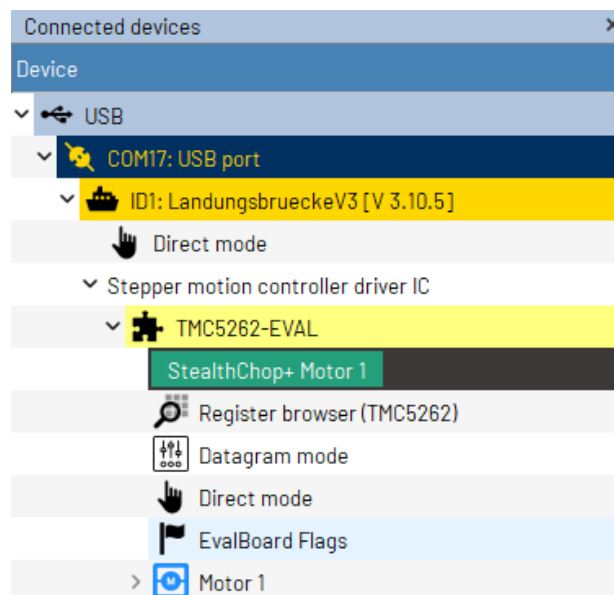
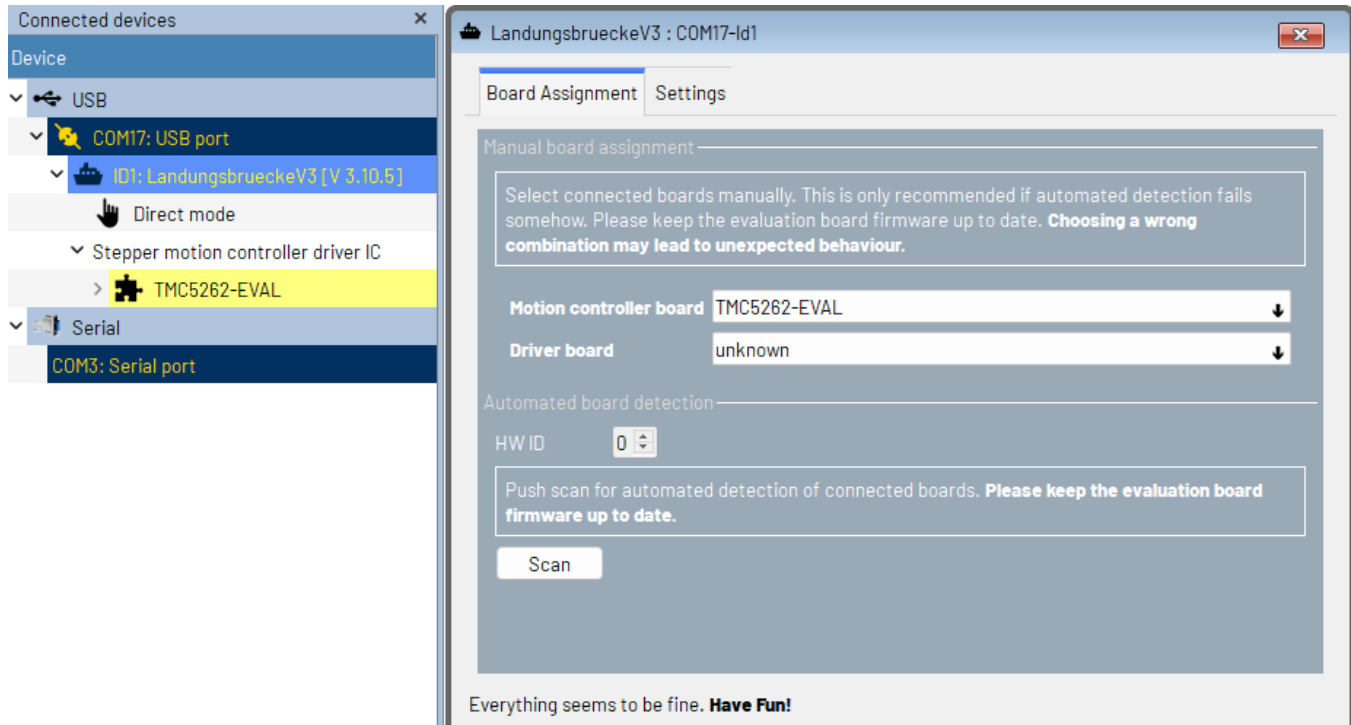

Figure 2. TMCL-IDE Device Tree
Figure 3. TMCL-IDE, Manual Selection of a Board
1. Make sure the latest version of the TMCL-IDE is installed on the computer. The latest version can be downloaded from TMCL-IDE. Open the IDE, the board should be automatically detected, and it should appear in the *Device tree*, as shown in Figure 2. If the board is not automatically detected, manually select it by following the steps shown in Figure 3.